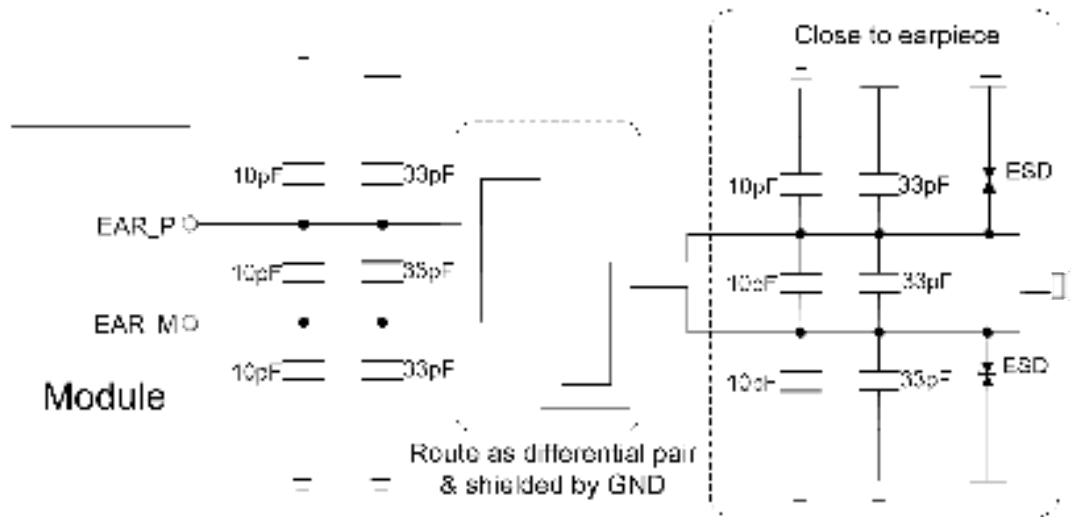

Figure 22: Earpiece reference circuit
A 100K Ω pull-down resistor is integrated at HPH_L pin, which could be used for mechanical insertion or removal detection through HS_DET pin. Figure 22 shows the reference circuit for normally-closed (NC) type headset jack.